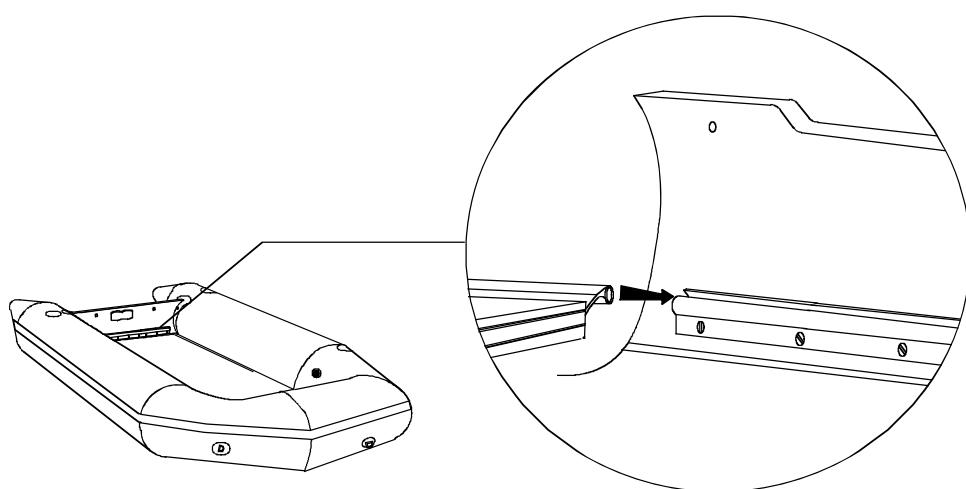

**fig. 3**
1. To facilitate the fitting of the stringers (7) if the ground is not a flat surface, slide the paddles under the boat, about 20 cm on either sides of the boat centreline [fig. 3-a].
2. **Position** the stringers on the edge of the floorboard. The reference mark on the stringer (8) must remain on top [fig. 3].
4. **Rotate** the stringers so that they press against the floorboard and fit correctly in the angle [fig. 3 and 4].